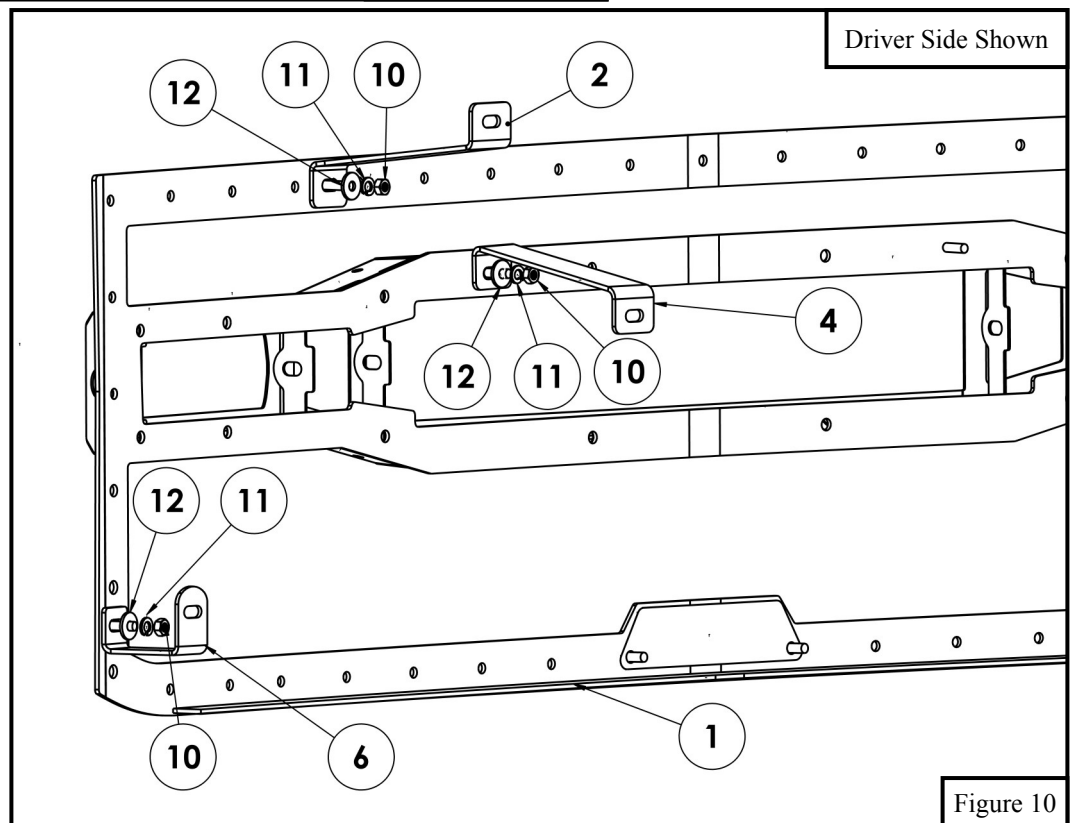

Figure 10
10. Align the HDX LED Grille (Item 1) with the previously installed brackets and loosely secure using the provided M6 hardware (Items 10 - 12). Refer to **Figure 10**.